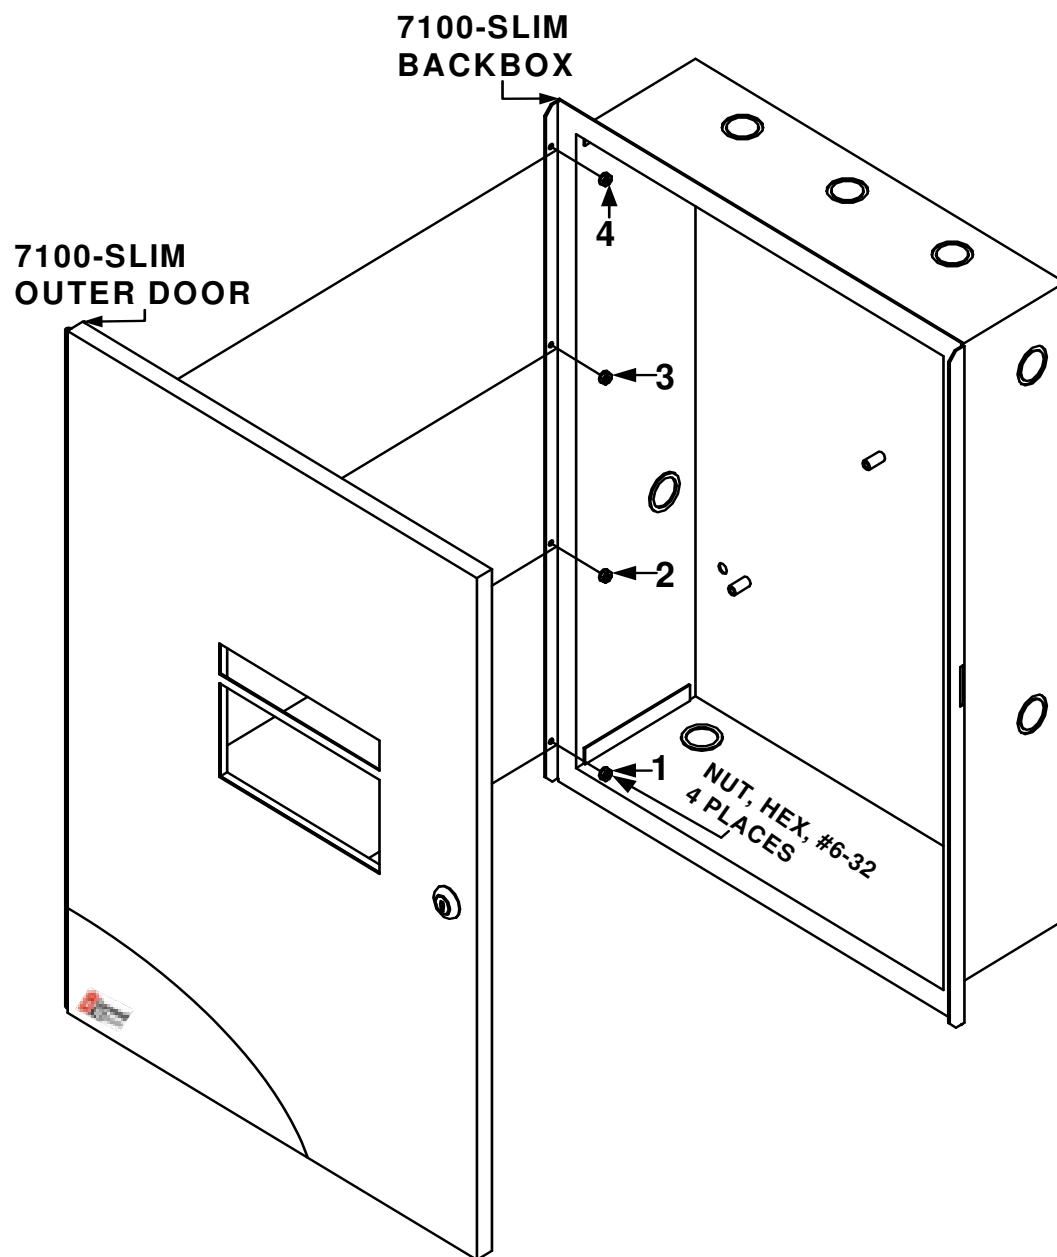

Figure 2.2.2.1 7100-Slim Outer Door Installation
To mount the 7100-Slim outer door to the backbox, secure four (4), #6-32 nuts in the four-hole mounting pattern on the left side of the backbox. See Locations 1, 2, 3, and 4 of Figure 2.2.2.1.